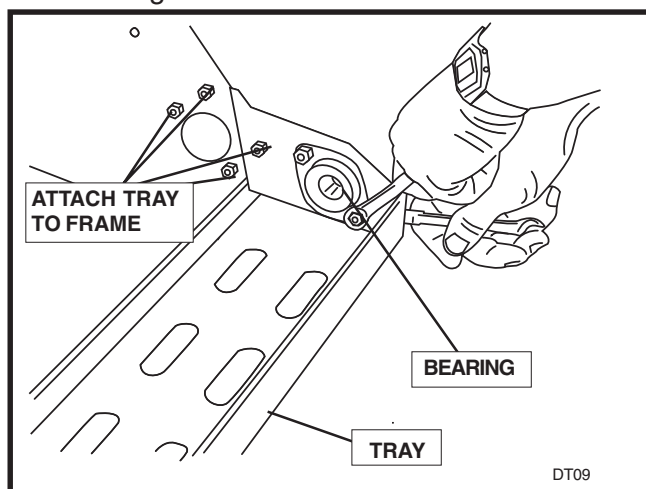

FIGURE 1
9. Install tray matching screw holes in main frame. See Figure 1.
10. Apply bearings on the inside of the tray, DO NOT tighten hardware, just snug it. See Figure 1.